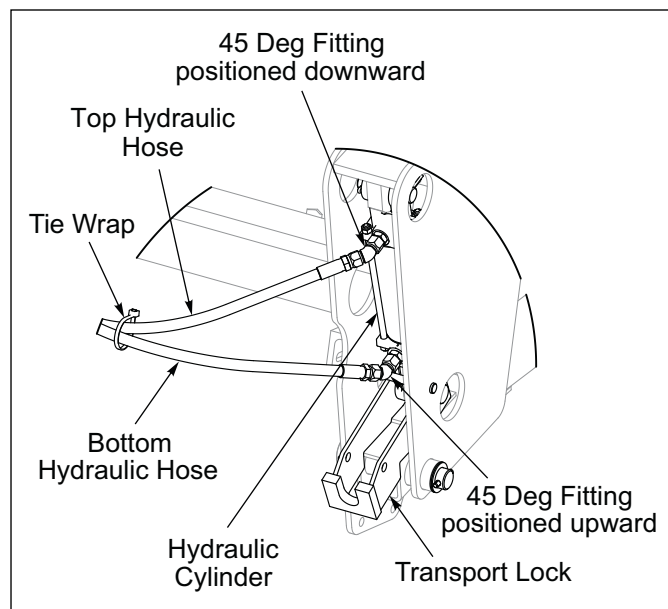

Figure 2-11: Cylinder Fittings Positioning
1. Restrictors installed in Cylinder Ports, connect 45 Degree Fitting so they are free to swivel. Connect top Hydraulic Hose to the Cylinder Base and bottom Hydraulic Hose to the Cylinder Rod End. Position the Hydraulic Hoses so that the Cylinder Base End points downward and the Cylinder Rod End points upward. Merge Hydraulic Hoses together and Tie Wrap them together about 12 inches from the Hose End. See Figure 2-11. Be sure that the Hoses cannot sag and make contact with the Front Roller Wheels.